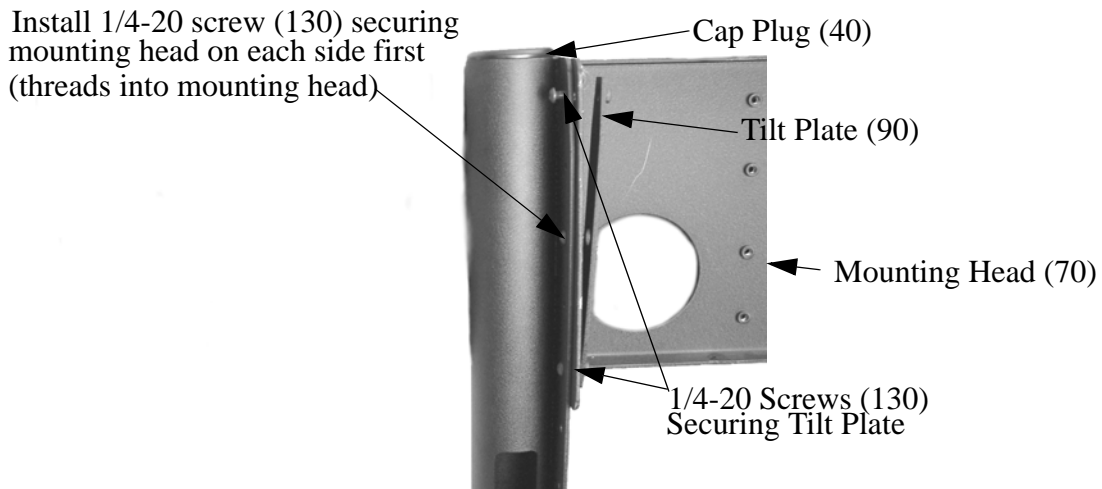

Figure 4. Install Mounting Head
- d. Install cap plugs (40) on top of left leg (110) and right leg (120). See Figure 4.
4. Using two 1/4-20 x 5/8" button head screws (130), one on each side, secure the mounting head (70) to the top of the legs (110 and 120) of the cart (see Figure 4).
5. Using four 1/4-20 x 5/8" button head screws (130), (two on each side), secure two tilt head spreaders (90), one per side (see Figure 4).